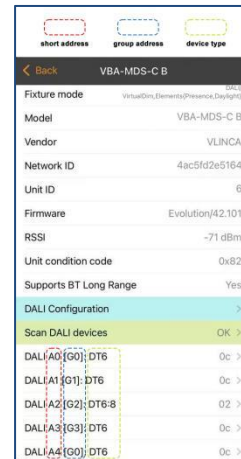

Figure 3
- **Make notice**, if the fixture is "control 4 ID", then only the short address within 0-3 can be controlled. if it is "control 4 Groups DT6", then only the group address within 0-3 can be controlled (**as in Figure 3**)